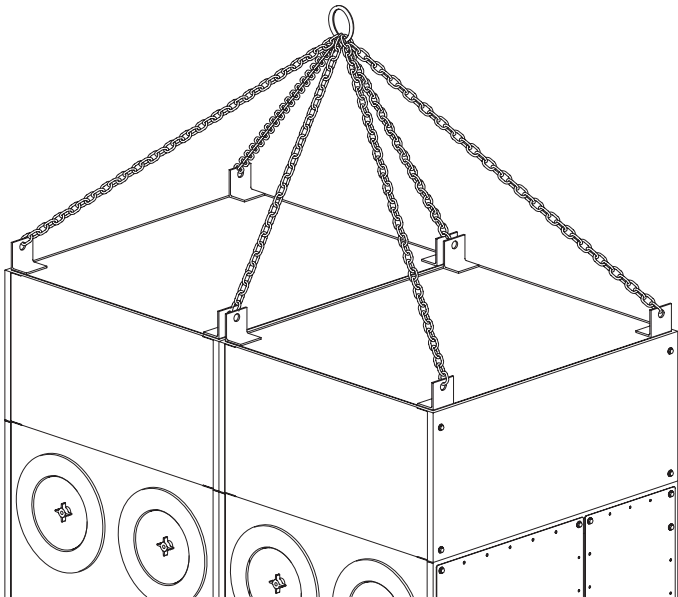

FIGURE 1
2. Lift the unit with a lift truck or overhead crane using the four lifting lugs located at the corners of the unit (see Figure 1 & 2).